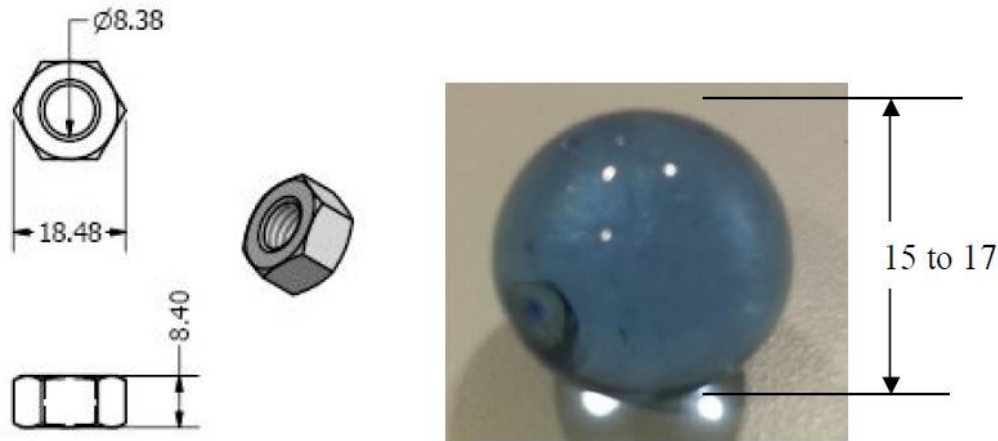

Figure 4 : Cargo Dimensions (in mm)
- 3.6 The cargo to be lifted will be marbles in the case of ROV and nuts for AUV as shown in Figure 4. The marbles are ceramic in nature and will have a diameter of around 15 – 17 mm weighing 3 to 7 g each. The nuts will be ferromagnetic and weigh between 10g to 20g.